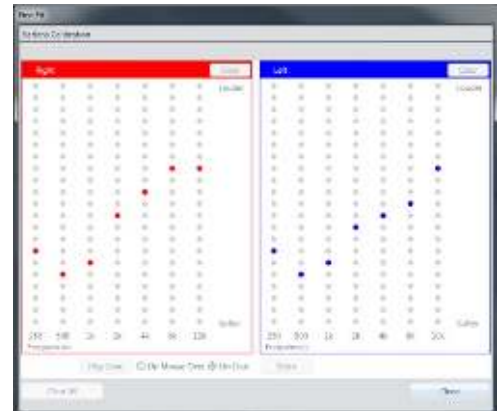

Figure 21. Calibration window
- b. The Calibration pop-up window will appear (Figure 21).